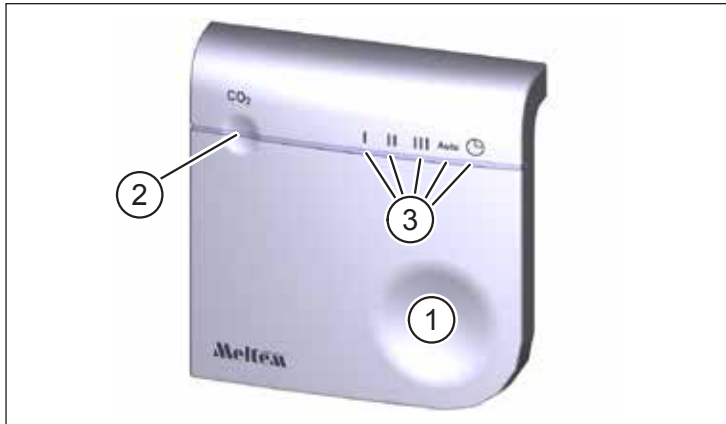

Fig. 1: External wireless CO₂ sensor
Item in Fig. 1	Description
The wireless CO₂ sensor is used for wireless operation of ventilation units from the M-WRG-II and M-WRG series constructed from 2020 onwards (excluding bus unit types). It can also be used to determine the CO₂ concentration at an installation location selected by you, provided that it is within the wireless range. The “CO₂ control” and “Automatic mode” ventilation programs use the transmitted values to automatically adjust the unit’s air flow to the required ventilation level. One wireless CO₂ sensor may be linked to each ventilation unit. If the ventilation unit has an internal CO₂ sensor, it will be automatically disabled. The wireless CO₂ sensor incorporates the CO₂ control function into ventilation units without an internal CO₂ sensor. The control button (item 1 in Fig. 1) is used to activate five different ventilation levels/programs. The current selection is indicated by one of the five green mode LEDs (item 3 in Fig. 1). The multi-coloured status LED (item 2 in Fig. 1) signals the wireless sensor and ventilation unit operating statuses. If the CO₂ concentration exceeds 800 ppm (factory setting) in the “CO₂ control” or “Automatic mode” ventilation program, the ventilation level is increased continuously up to max. 60 m³/h until the CO₂ concentration in the room drops back below 800 ppm. When it is started for the first time, the wireless CO₂ sensor takes 2 minutes to calibrate itself so that it can return stable values.